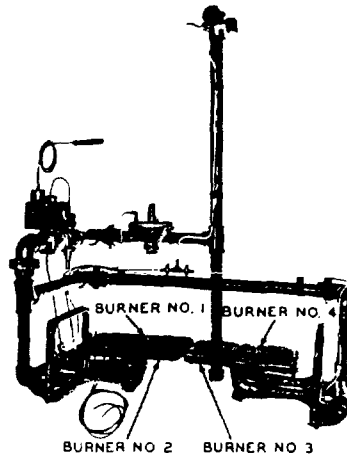

FIG. 2—Burner Arrangement
1. Each 4-GA boiler is supplied with four burners which must be installed as shown in Fig. 2. Burner Nos. 2 and 4 are plain without pilot attachments. Burner assemblies Nos. 1 and 3 vary according to type of installation. Identify them as shown on page 3.
Attach control piping assembly with union elbow to left manifold at top union joint and to gas supply pipe with union. (See Fig. 2.) Be sure arrows on Automatic Gas Valve, BASO Valve and Gas Pressure Regulator point in direction of gas flow. Tighten manifold bracket attaching screws and set screws in manifold brackets.